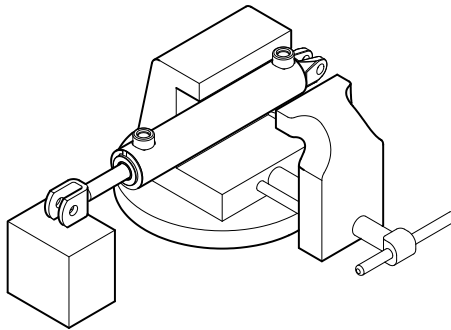

Figure 4-2, Cylinder Vise
2. Clamp the cylinder lightly at the base end in a soft jawed vise. Use a block or other support under the rod end of the cylinder. (Figure 4-2)